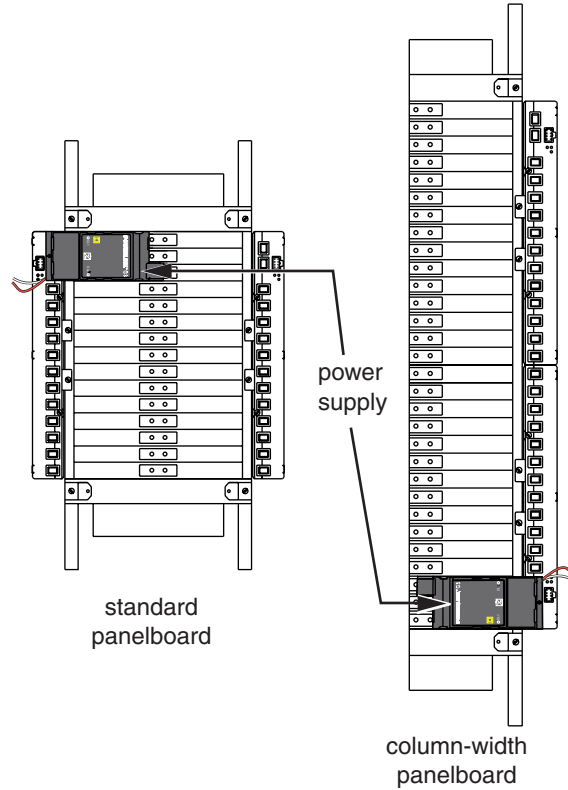

**Figure 1: Power supply installation**
3. Insert the power supply's bus connectors into the vertical bus connections on the left control bus (see Figure 1).